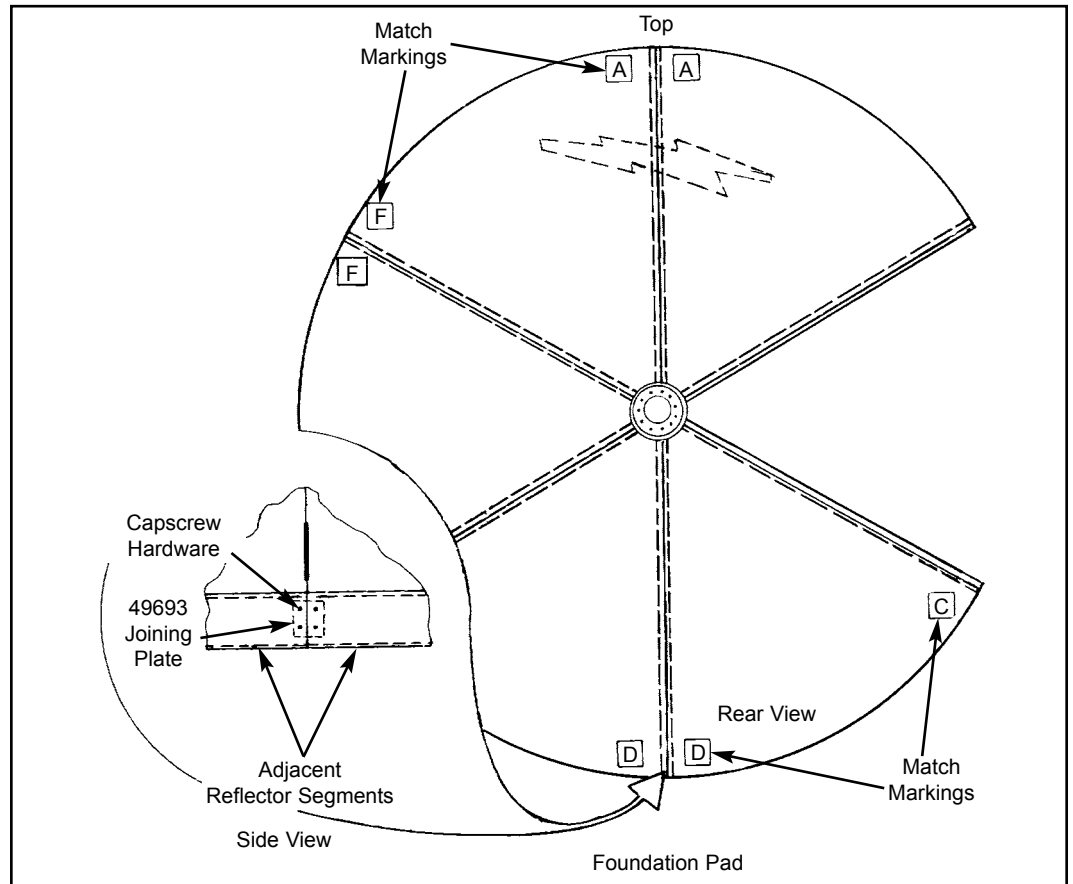

Figure 34
- Step 7** Loosely attach joining plate (P/N 49693) along **A-A** seam inside reflector rim as shown in Figure 34.